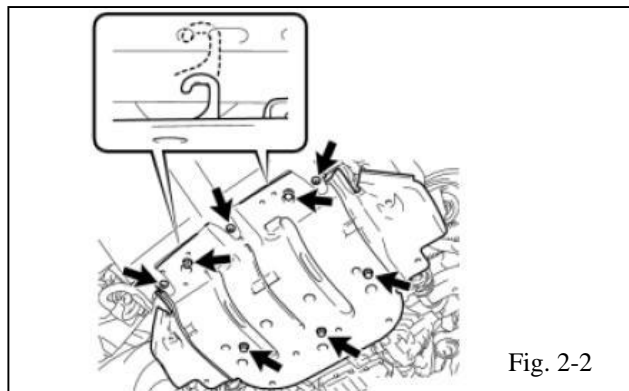

Fig. 2-2
- (b) If installed, remove the 3 screws and 5 bolts to remove the No. 1 engine under cover (Fig. 2-2). Save these parts for reuse.